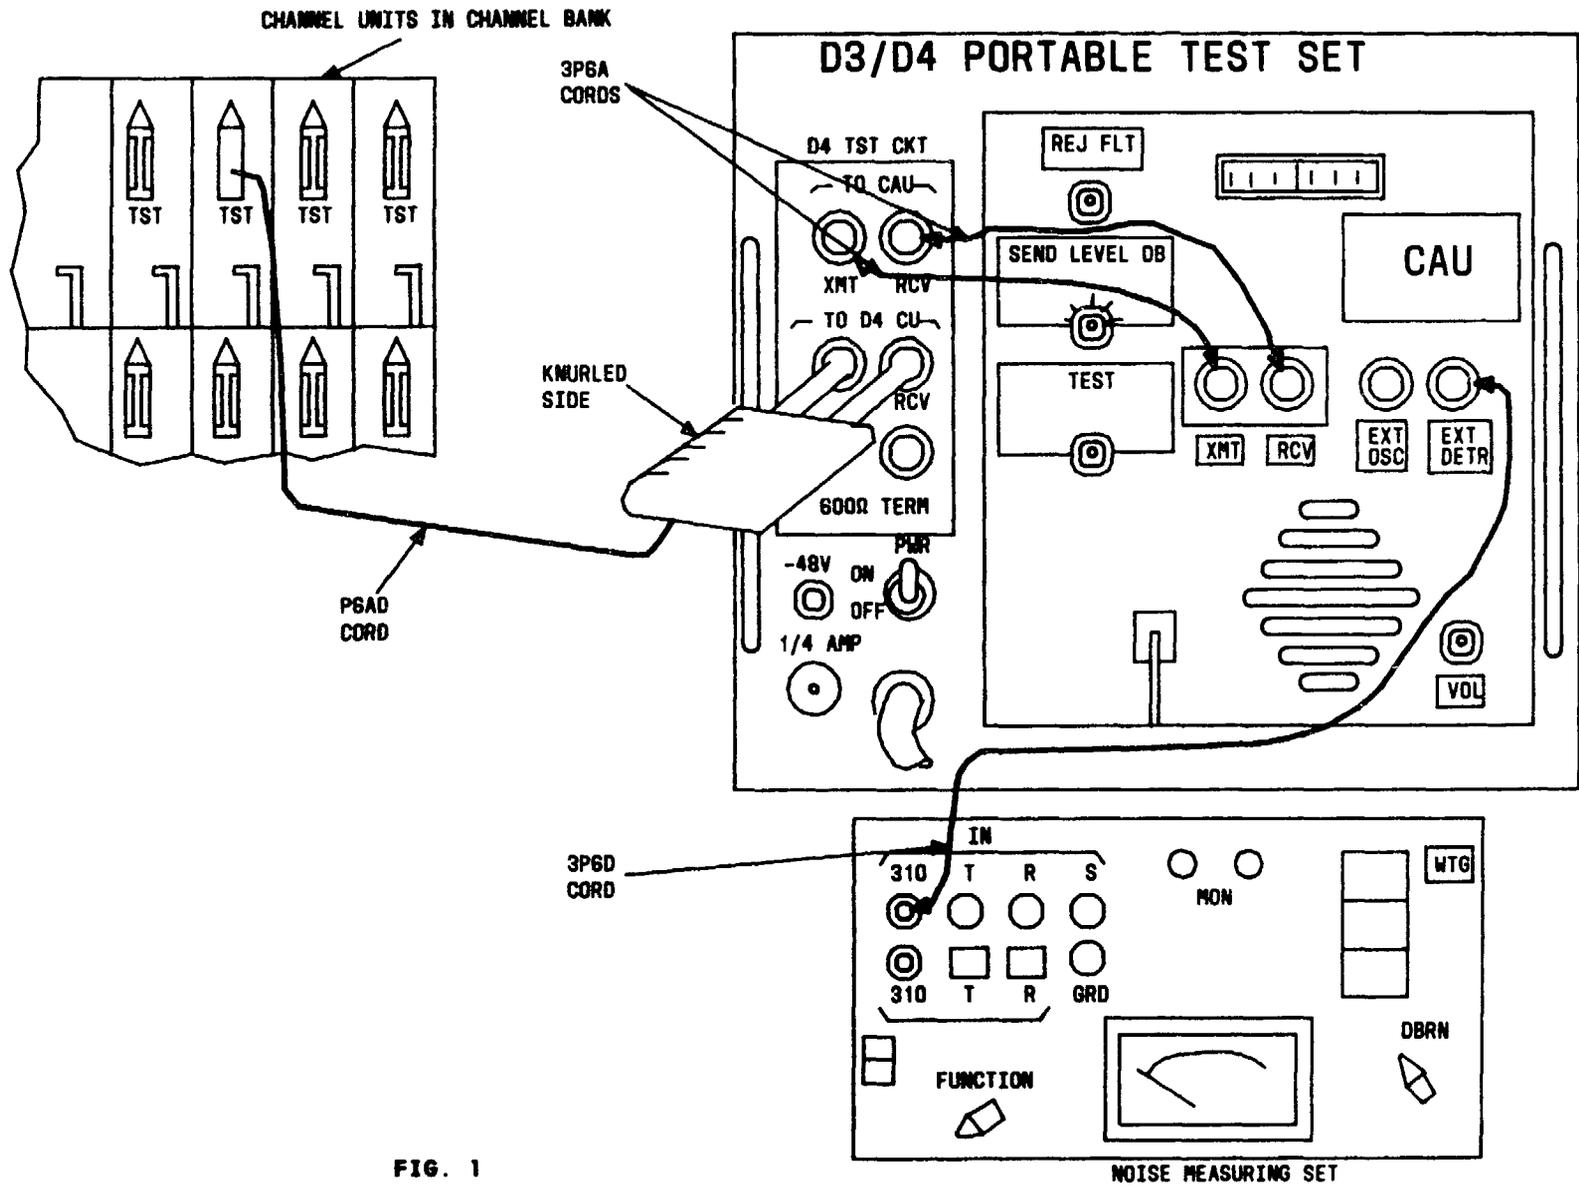

FIG. 1
- [3] Make test connections per Fig. 1